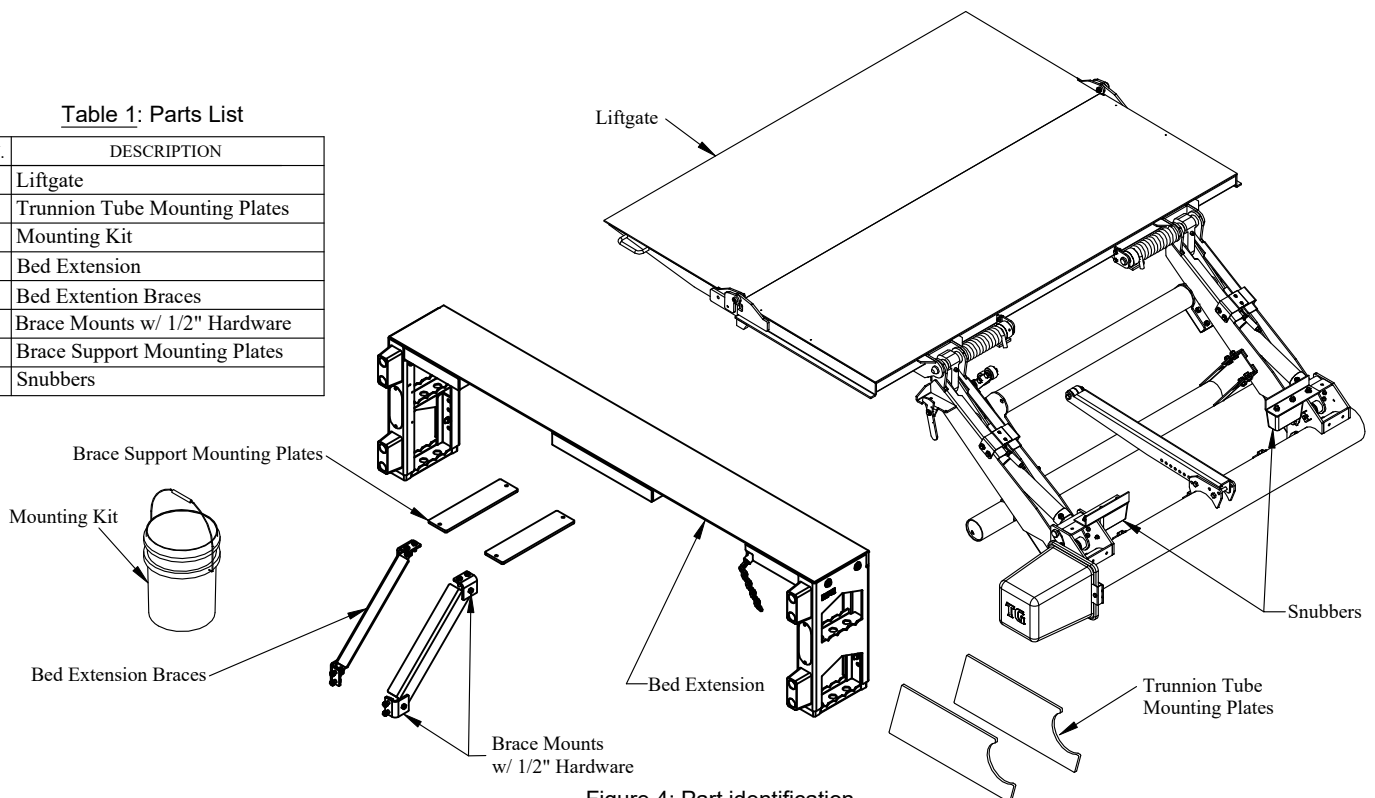

Figure 4: Part identification.
- 3. Verify** parts list (Table 1) and inspect for missing or damaged parts (Figure 4).